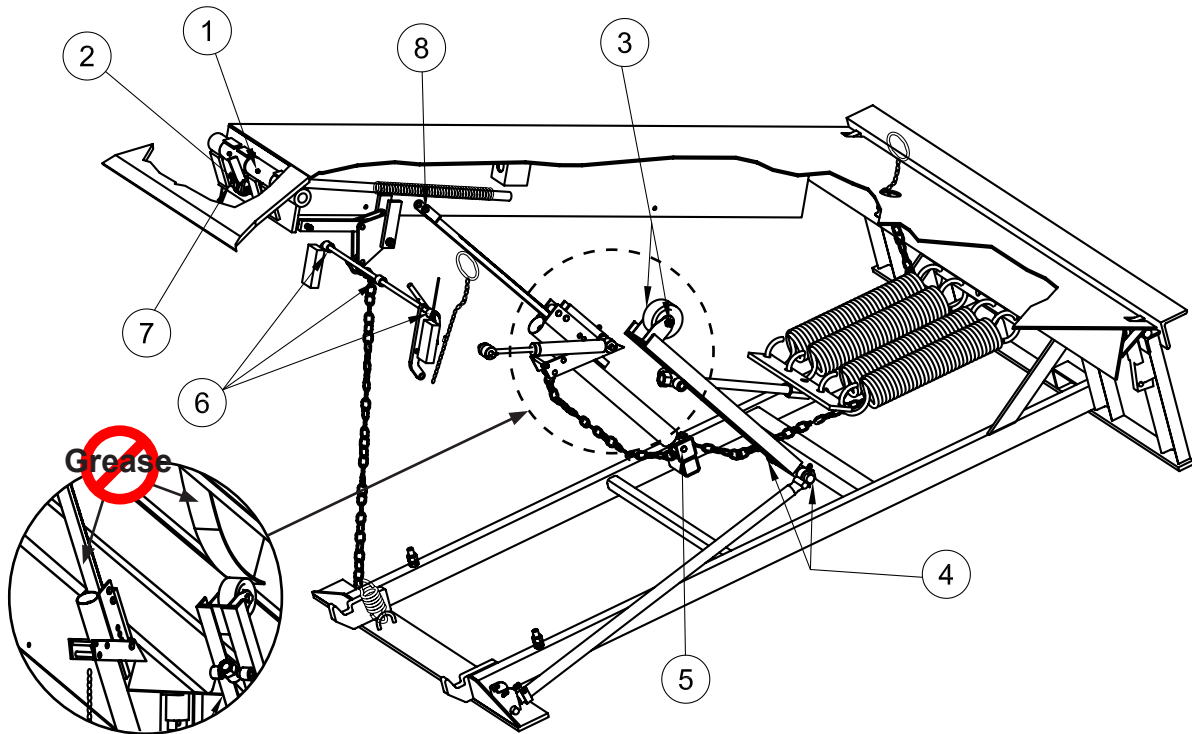

Figure 26
- Lubricate the following areas with light weight machine oil (see Figure 26):
- (2) — Lip maintenance prop pivot
- (5) — Hold-down pivot/pulley
- (6) — Safety leg linkage pivots
- (8) — Hold-down to platform pin